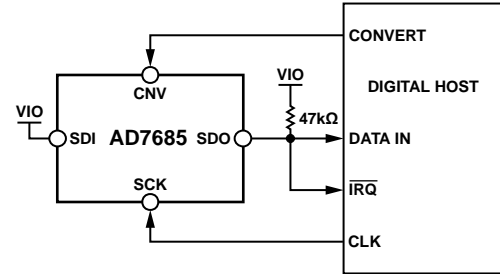
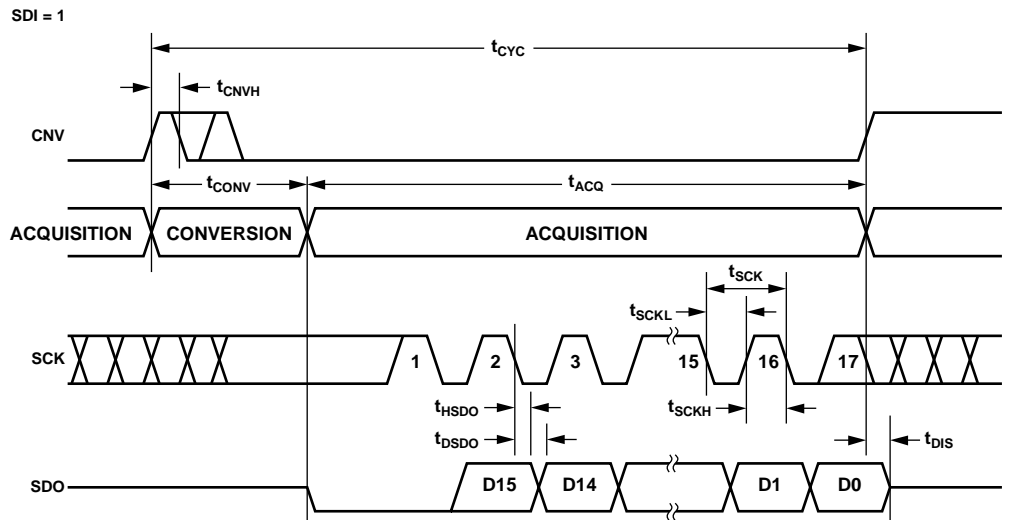
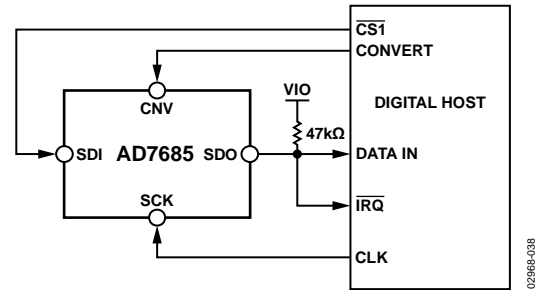
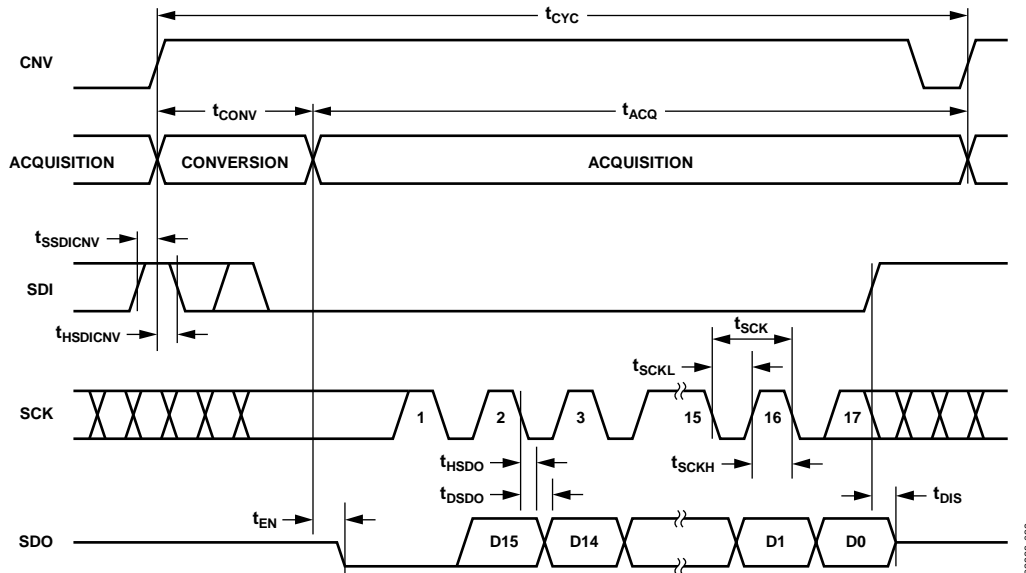

Figure 36. CS Mode 3-Wire with BUSY Indicator Connection Diagram (SDI High)
Figure 37. CS Mode 3-Wire with BUSY Indicator Serial Interface Timing (SDI High)
Figure 40. CS Mode 4-Wire with BUSY Indicator Connection Diagram
Figure 41. CS Mode 4-Wire with BUSY Indicator Serial Interface Timing
- In the \overline{CS} mode, if CNV or SDI is low when the ADC conversion ends (see Figure 37 and Figure 41).
The connection diagram is shown in Figure 36, and the corresponding timing is given in Figure 37.
The connection diagram is shown in Figure 40, and the corresponding timing is given in Figure 41.